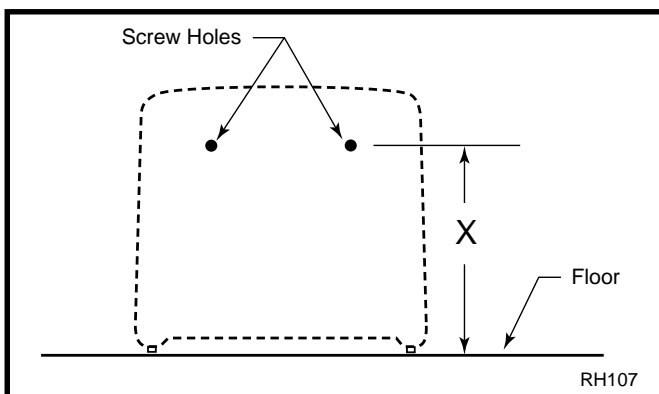

Fig. 5 Optional wall mounting screw for floor installation.
2. Measure heater mounting screws location "X" as desired above floor. (Fig. 5)